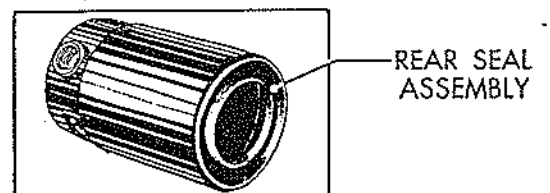

Figure 75
(3) Insert the rear seal assembly as shown in Fig. 75, sliding the seal in carefully until it rests firmly on the shoulder of the inner sleeve.